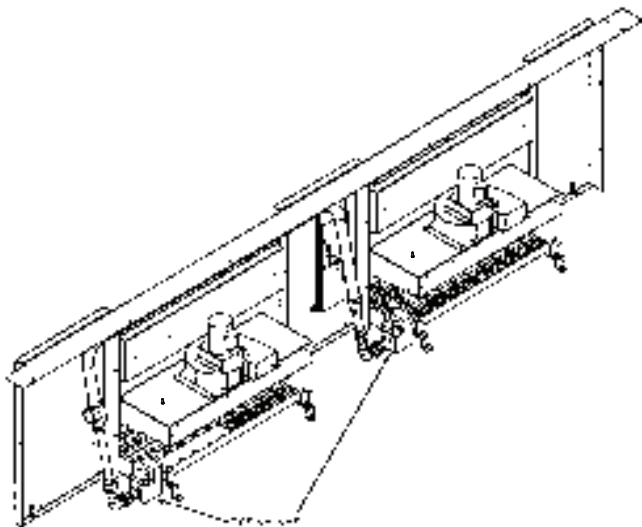

Fig. 15 — Gas Valve Locations (Detail View)
2. Locate the two (for 20-50 ton units) or three (for 60 ton units) gas valves in the unit. See Fig. 15 for gas valve locations.